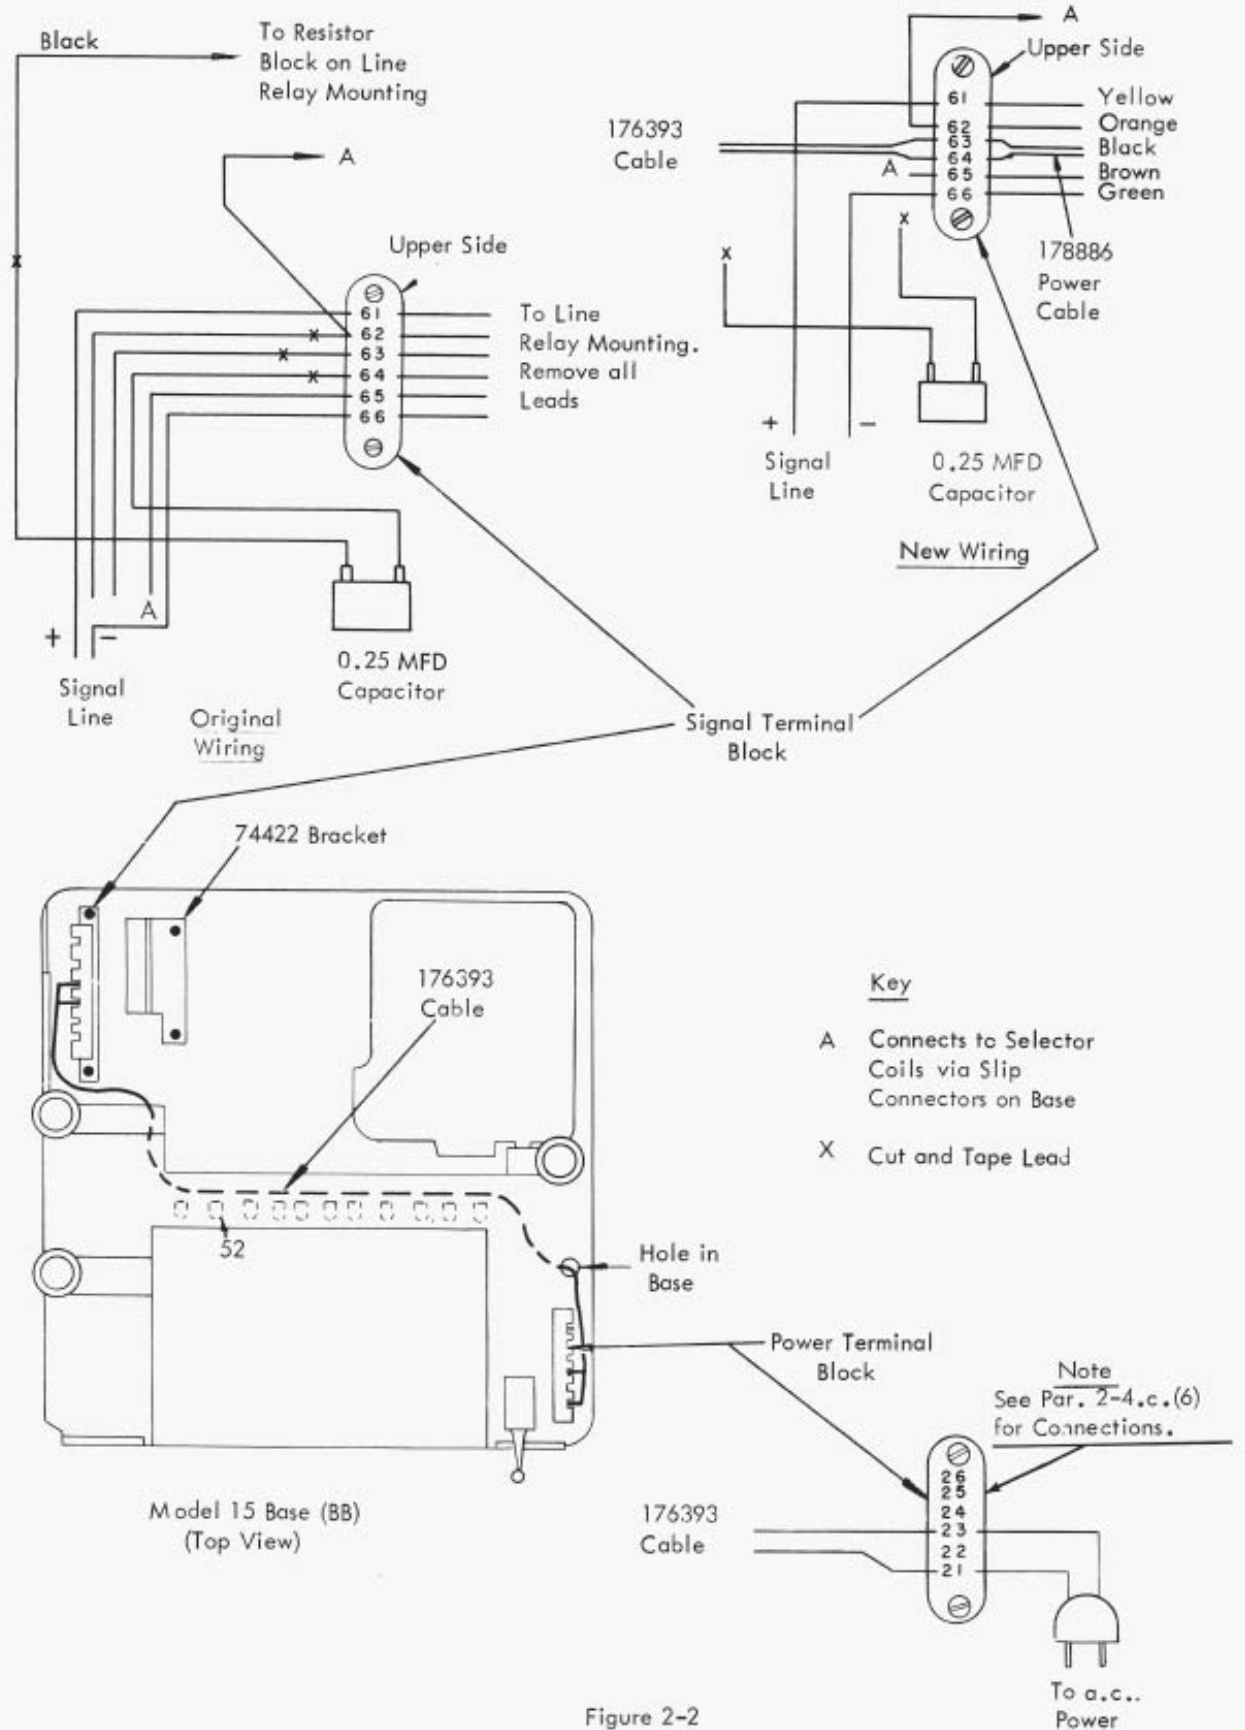
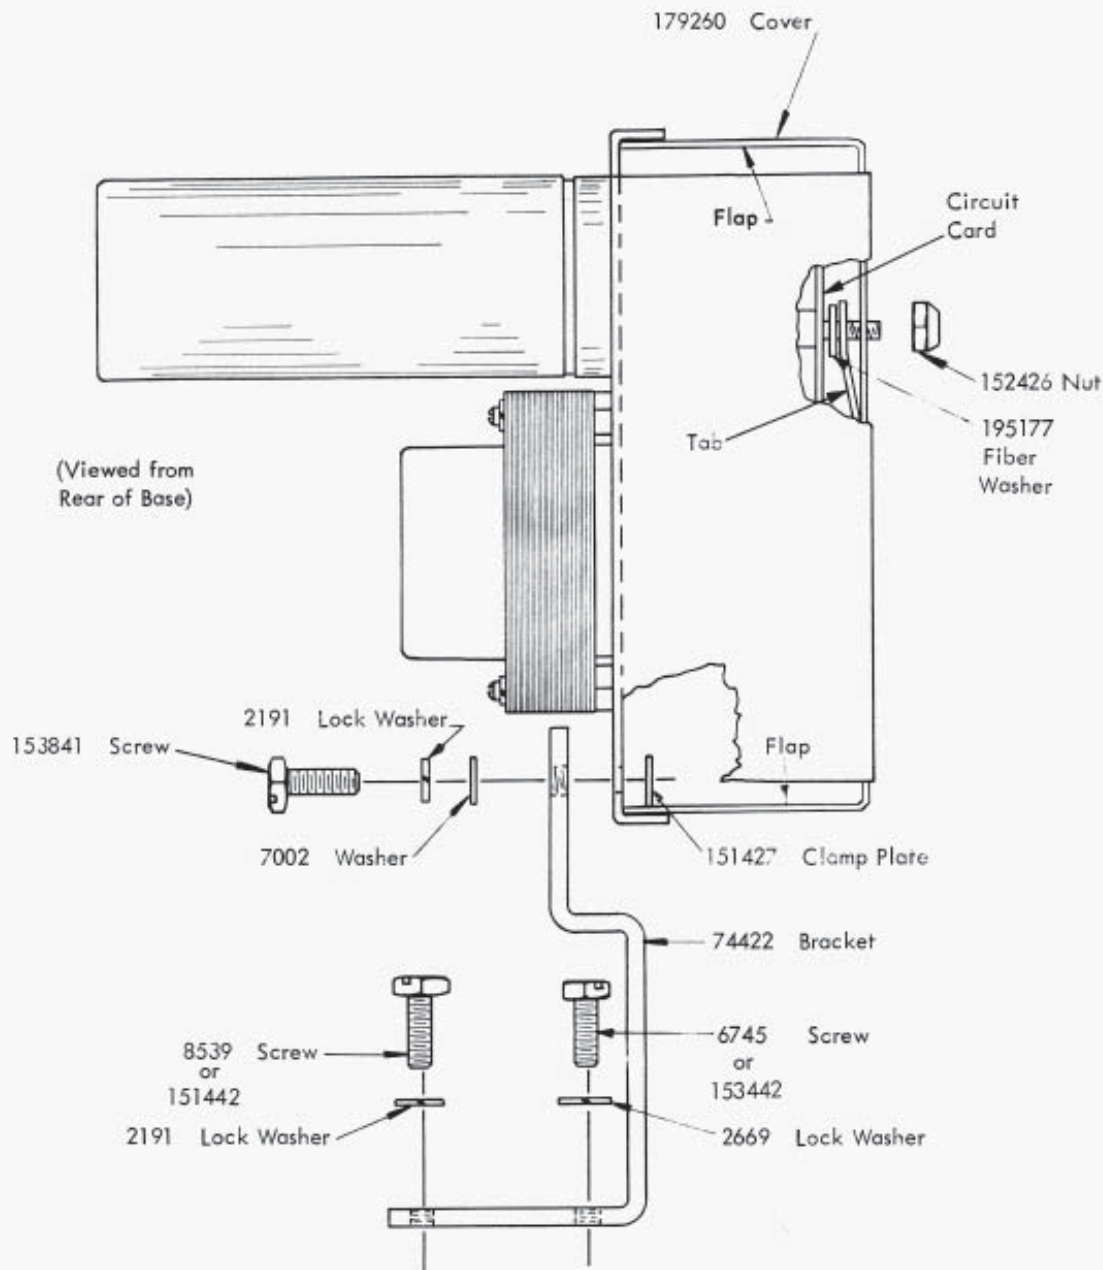

Figure 2-2
Figure 2-3. Mounting on Model 15 Base
(1) To mount Driver on Model 15 Base, Modification Kit 177015 (see paragraph 1-4. b.) is required. To mount it on such bases not equipped with 255A (RY30) line relay mounting, the parts listed in paragraph 1-4. c. must be ordered separately. Standard parts in Model 15 Base are illustrated in Bulletin 1037B.
(2) The Driver is designed for use with Model 15 Sets having holding-magnet selectors. It should not be used with pulling-magnet selectors.
(3) Because of variations in wiring, it is not possible to give specific instructions for each equipment. The following instructions apply to typical units. Wiring of individual units should be compared to Figure 2-2., and necessary modifications in the installation procedure should then be made.
(a) Remove all wiring from terminals 61 through 66 on upper side of signal terminal block (Figure 2-2). These wires all run to line relay mounting.
(b) Mount 74422 bracket on the base using 153442 screw and 2669 lock washer and two 151442 screws and 2191 lock washers (see paragraph 2-4. a. (1) above). See Figure 2-2 for location of bracket and Figure 2-3 for location of mounting hardware.
(1) See paragraph 2-3. c. (1) above for strapping of circuit card for use with different types of line signals.
(2) Remove two 90789 flat washers and 151427 nut plates from 153841 mounting screws on Magnet Driver (Figure 5-1). Remove 153841 screws with 2191 lock washers and 7002 flat washers and slip them through threaded holes in 74422 bracket until they protrude a small amount on the other side (Figure 2-3). Place Magnet Driver on protruding screws, as shown in Figure 2-3. Install one threaded 151427 clamp plate on mounting screw. Install other plate on other screw. Tighten screws.
(3) The 179260 cover (part of 177015 Modification Kit) is furnished flat, but is scored for bending. Place cover over edge of a surface such as a table top and form two end flaps (see Figure 2-3). Remove 152426 nut from upper stud, but leave 131228 insulating washer in place. Place cover as shown in Figure 2-3 with tab over stud. Replace nut and tighten. Tuck flaps inside chassis' ends.
(4) Connect leads on 178887 signal line cable (Figure 5-1) to signal terminal block (Figure 2-2) as indicated below:
(5) Connect black leads on 178886 power cable (Figure 5-1) to terminals 63 and 64 on upper side of signal terminal block (Figure 2-2). Tie any excess cable to terminal block's mounting bracket with lacing twine.
(6) Connect leads at one end of 176393 extension cable (part of 177015 Modification Kit) to terminals 63 and 64 on lower side of signal terminal block (Figure 2-2). Remove base plate from under side of Base by removing its mounting screws. Route 176393 cable along existing cable to power terminal block as shown in Figure 2-2. Loosen clamps holding existing cable and place 176393 cable under them. For continuous operation, connect leads on 176393 cable to terminals 21 and 23 on power terminal block. For switch controlled operation, connect leads to terminals 22 and 23. Switch control is recommended to permit turning off a. c. power to driver during maintenance periods. Replace base plate.
(7) For blinding selector to incoming signals, see paragraph 2-3. b.(6) above and paragraph 4-7.
c. If circuit card is removed, when replacing it, place 195177 insulating washer between card and 152426 nut (see Figures 2-3 and 5-1) otherwise, nut will contact printed circuit and will cause damage to Driver.